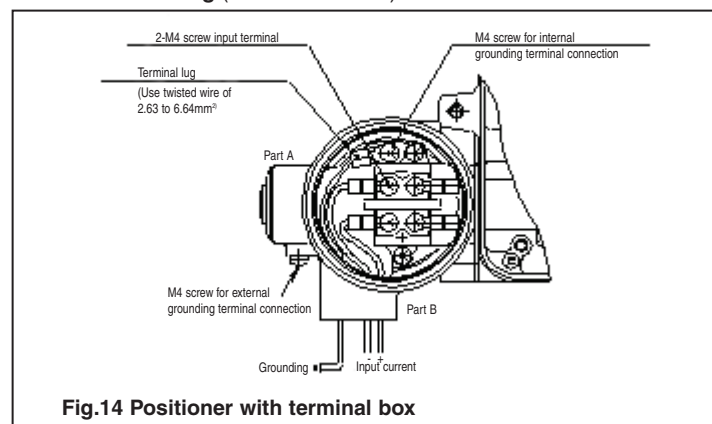

Fig.14 Positioner with terminal box
- Two drawing ports, marked as Part A and Part B in Fig.14, are provided. Use either one as fitted. (Part B is used in the figure).